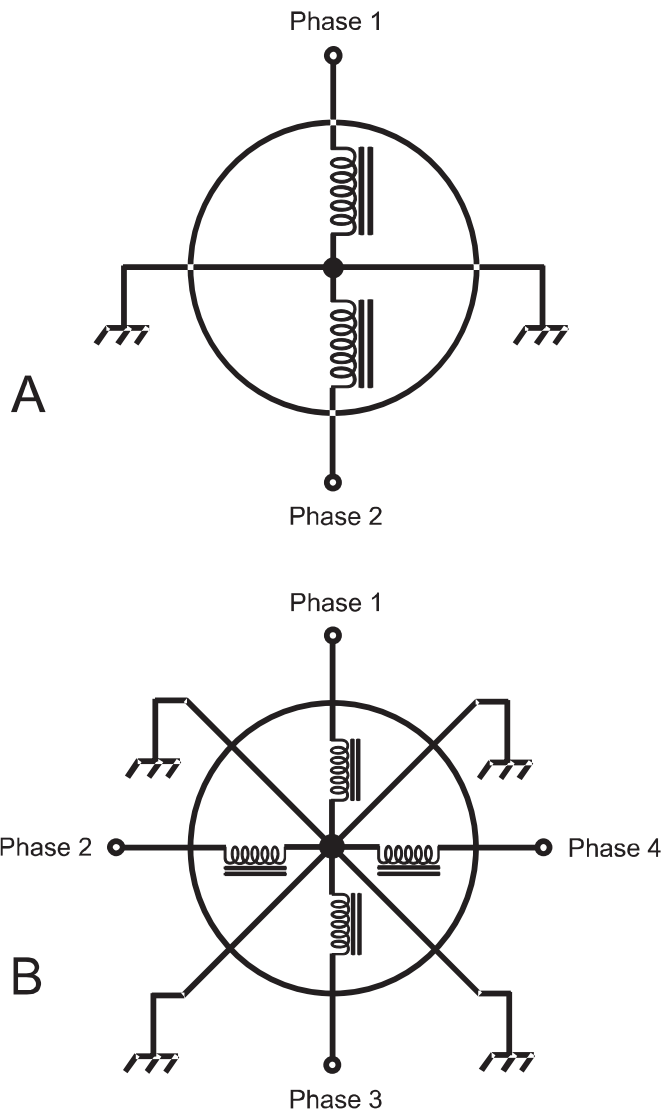

Fig. 12-6. At A, schematic symbol for a 2-phase stepper motor. At B, schematic symbol for a 4-phase stepper motor.
The most common stepper motors are of two types. A *2-phase stepper motor* has 2 coils, called *phases*, controlled by 4 wires. A *4-phase stepper motor* has 4 phases and 8 wires. The motors are advanced incrementally (stepped) by applying currents to the phases in a controlled sequence. Figure 12-6 shows schematic diagrams of 2-phase (A) and 4-phase (B) stepper motors. Table 12-2 shows control-current sequences for 2-phase (A) and 4-phase (B) stepper motors.